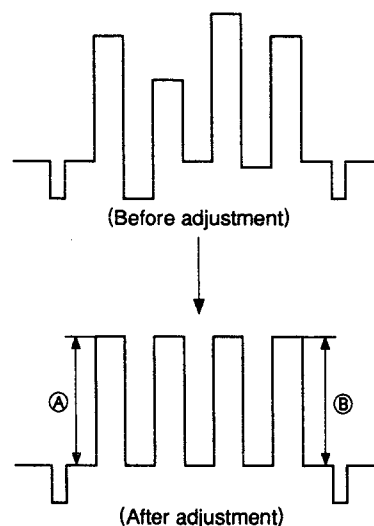

Fig. 10
3. Adjust RV107 (HUE ADJ) and RV106 (SUB COL) until the waveform become flat. (Fig. 10)